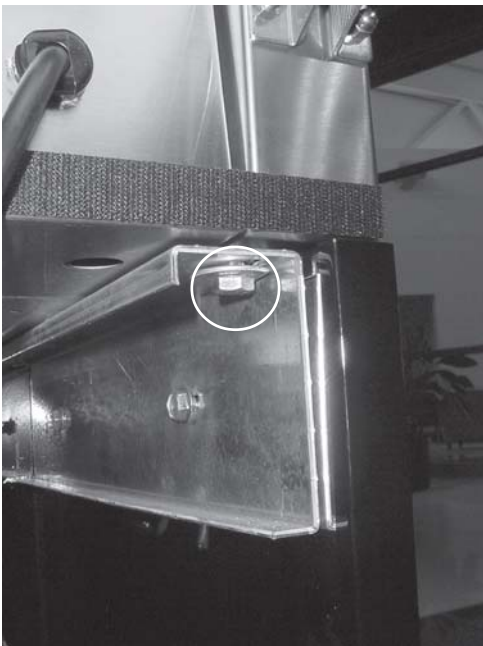

Figure 2-2
4. Locate mounting hole in right, rear corner of the units and secure the corner using one of the bolts from step 1. Figure 2-2.